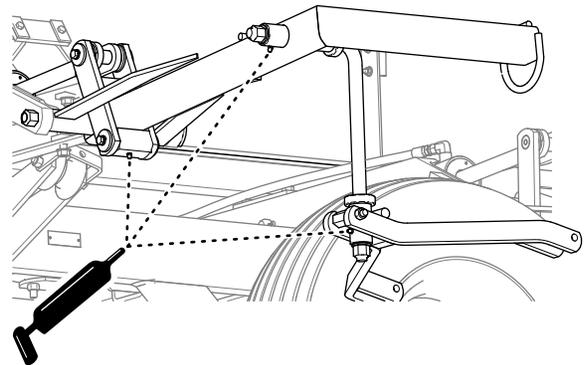

Figure 16
- Lubricate the 3 grease fittings for the lift arm and pivot housing (Figure 16).